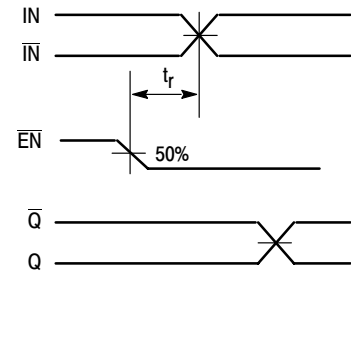

Figure 3. Release Time
- The release time is the minimum time that \overline{EN} must be deasserted prior to the next IN/ \overline{IN} transition to ensure an output response that meets the specified IN to Q propagation delay and output transition times (see Figure 3).